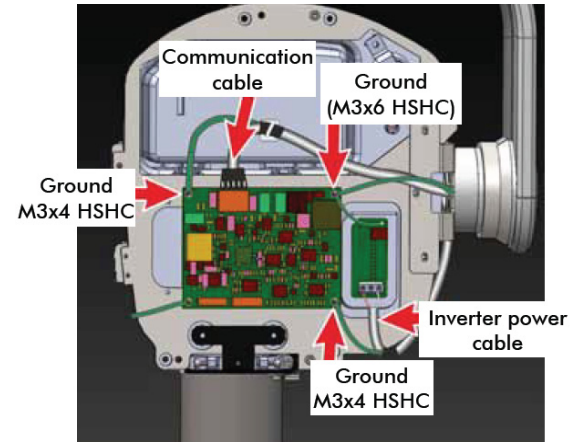

Figure 40
- Route the INV power cable as shown in the Figure 40 and connect it to the sealing board 3 pin connector (Pin 1 & 3). Hold the connector firmly while tightening the terminal screws.
- Using a 2.5mm allen key connect the GND ring terminal of the INV cable to the nearest control board fixing screw(M3x4 HSHC) as shown in the Figure 40.
- Route the communication cable and connect it to the J4 connector of the control board as shown in Figure 40.
- Using a 2.5mm allen key connect the GND ring terminal of the communication cable to the nearest control board fixing screw(M3x4 HSHC) as shown in the Figure 40.
- Fix the scissor-arm grounding cable on the control board along with sealing board grounding cable with M3X6 Hex. Socket Head cap screw using 2.5MM Allen key as shown in Figure 40.